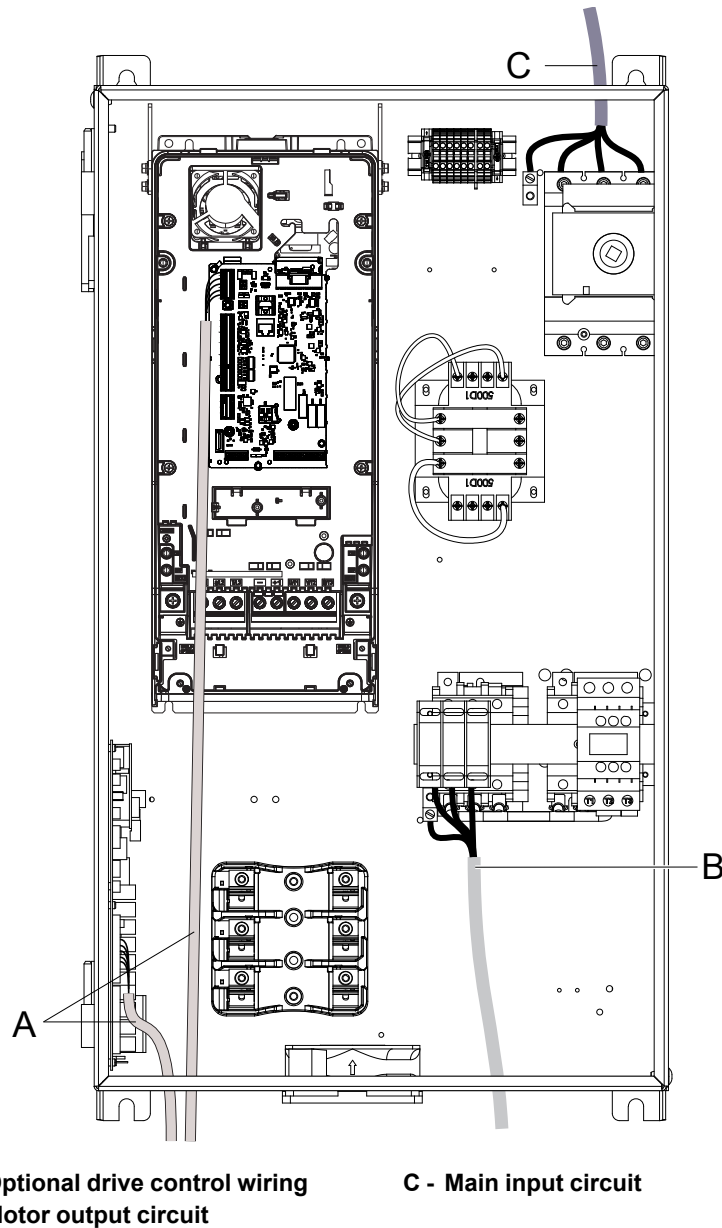

Figure 3.5 Enclosed Bypass Wire Routing Example (Models H6B1D002 to D273, A002 to A248, B1P1, B001 to B302)
2. Route the main circuit wiring. Figure 3.5 shows suggested wire entry and bending areas for the enclosure.